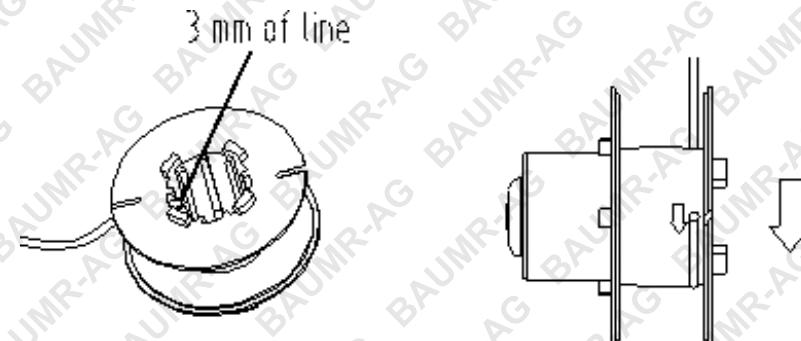

FIG. 11
- Insert one end of line into the hole in the spool as shown in FIG. 11, about 3 mm.
- Snugly and evenly wind the line onto the spool in the direction of the arrow on the spool (FIG. 11), until the line builds up to the notches in the spool rim. Do not overfill spool. The spool holds about 6.5m of line.